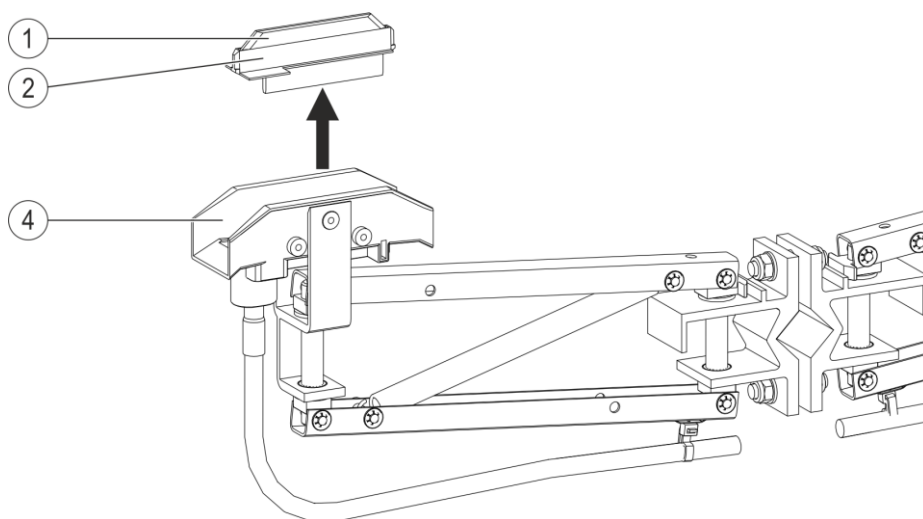
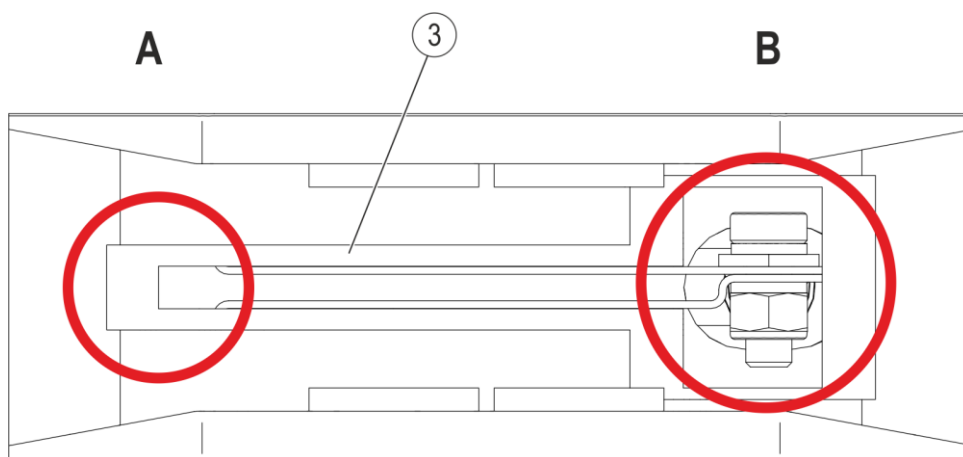
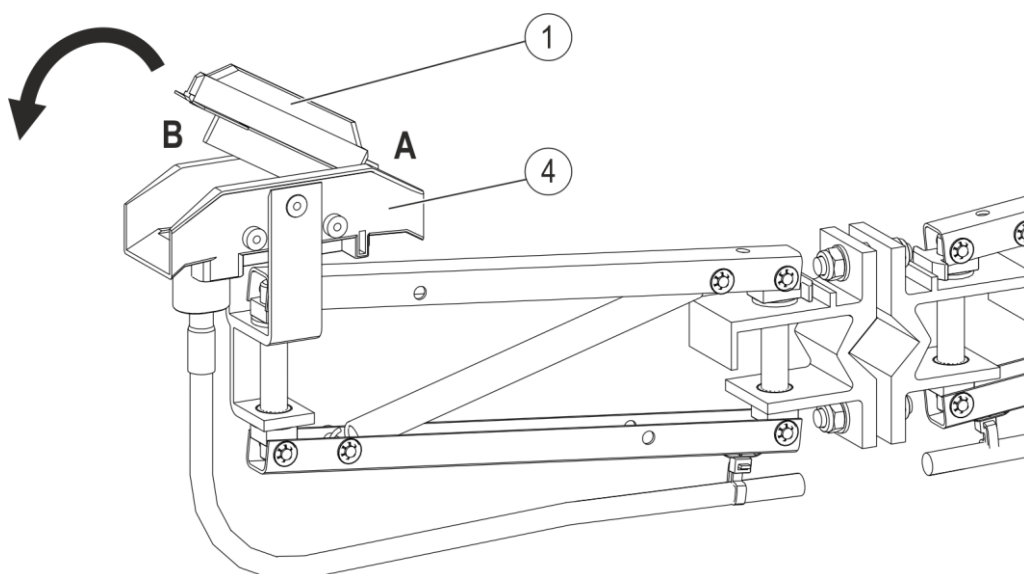

Fig. 127: Remove sliding contact (Pos. 1) and plastic insulation (Pos. 2)
Fig. 128: Farthest side (A) and narrowest side (B) of the contact plate (Pos. 3)
Fig. 129: Sliding contact cut-out on the side of the rail
In order to replace the sliding contact (Pos. 1) (see Fig. 127), the following work steps must be conducted:
- Hold the current collector head firmly and use water pump pliers to adjust the sliding contact (Pos. 1) with its plastic insulation (Pos. 2) pulled out. Start pulling out on the more open side (= side A in Fig. 128) of the contact plate (Pos. 3) (see Fig. 127 and Fig. 128).
- Clean the area under the plastic insulation (Pos. 2), particularly the contact surface of the contact plate (Pos. 3) (see Fig. 128).
- Press the new sliding contact with its plastic insulation by hand into the sliding contact insulation (Pos. 4) (see Fig. 129). Start at the more open side of the contact plate (side A in Fig. 128) and then fully insert the sliding contact while turning. No tools (such as a hammer) may be used when pressing in, as this can damage the contact surfaces of the sliding contact. Please note the following when inserting:
- The sliding contact cut-out (Pos. 1) must sit on the side of the rail (Side B) (see Fig. 129).